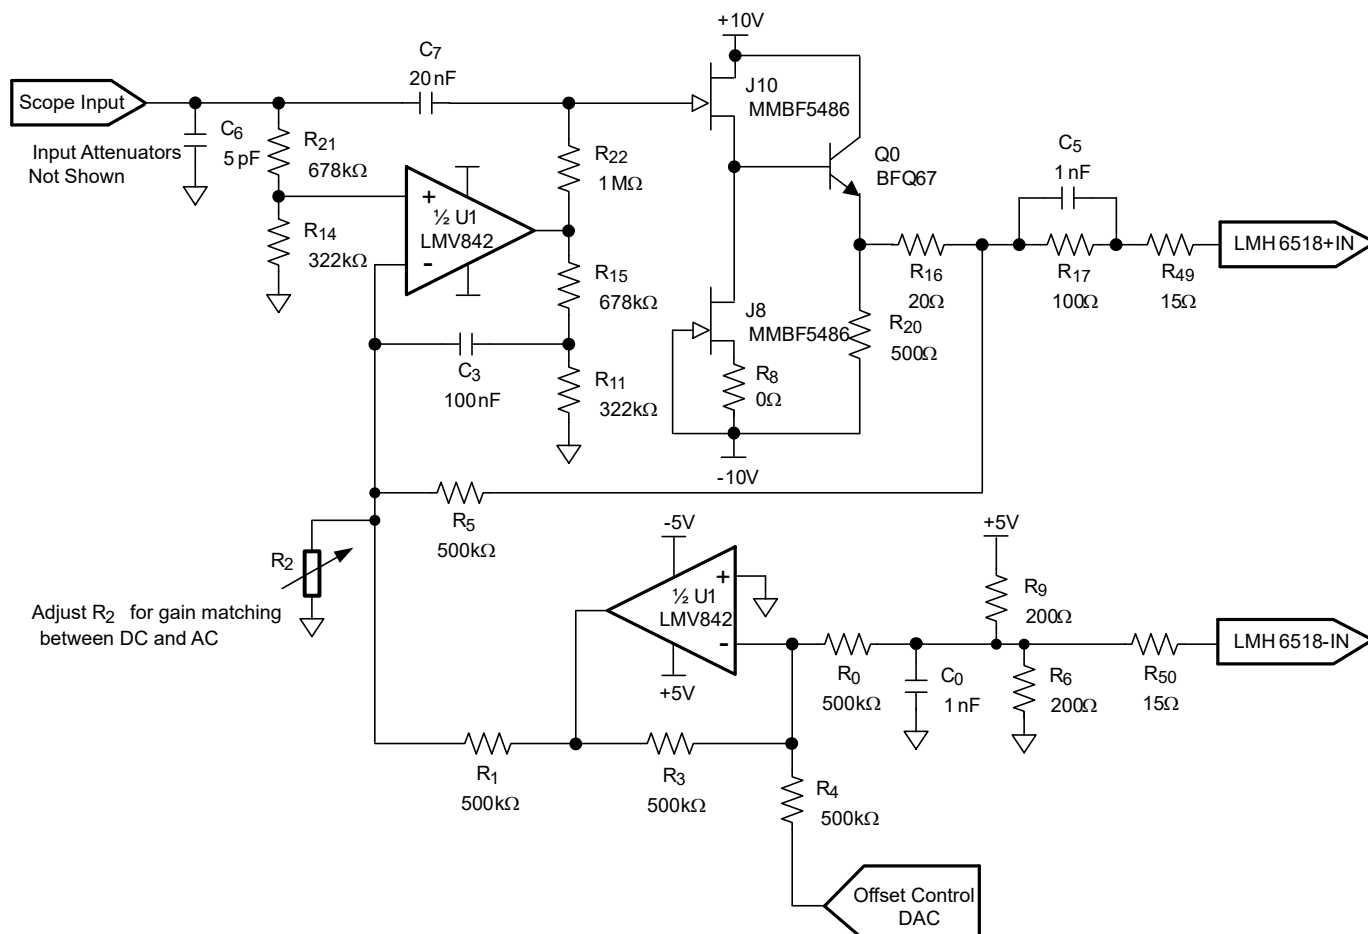
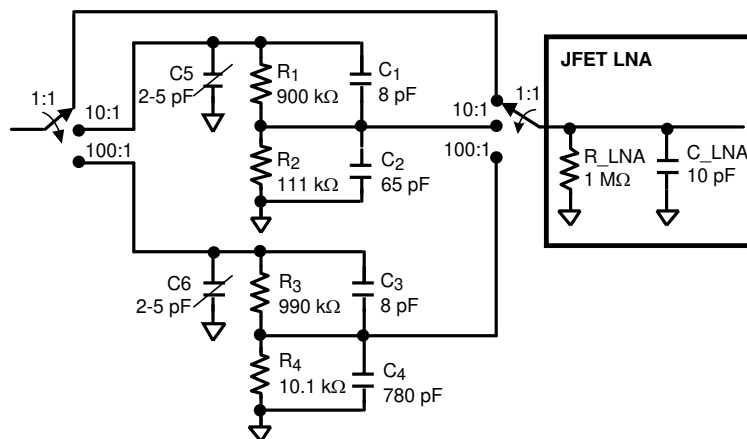

Figure 7-11. JFET LNA Implementation
Figure 7-12. Front-End Attenuator for JFET LNA Implementation
- Low noise (< 0.98 nV/ $\sqrt{\text{Hz}}$) to reduce the impact on the LMH6518 noise figure. Be aware that Figure 7-1 does not show the necessary capacitors across the resistors in the front-end attenuators (see Figure 7-12). These capacitors provide frequency response compensation and limit the noise contribution from the resistors so that the resistors do not impact the signal path noise. For more information about front-end attenuator design, including frequency compensation, see Section 8.2.1 for additional resources.
Figure 7-11 shows the schematic drawing for a possible implementation of the LNA buffer.
With the values in Figure 7-11 $\rightarrow R_2$ approximately 452 k Ω .
Figure 7-12 shows a front-end attenuator designed to work with Figure 7-11.